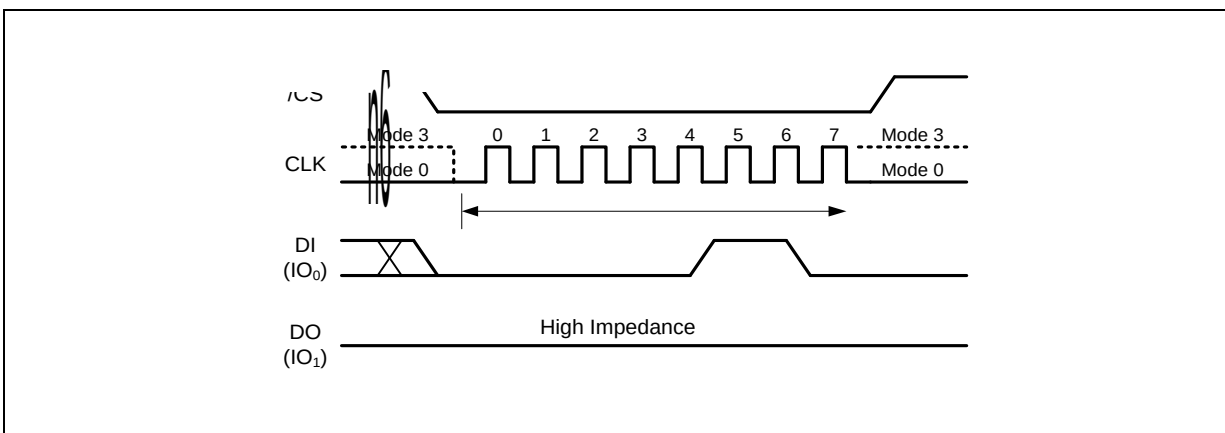

Figure 9. Write Enable Instruction
The Write Enable instruction (Figure 9) sets the Write Enable Latch (WEL) bit in the Status Register to a 1. The WEL bit must be set prior to every Page Program, Quad Page Program and Block Erase instruction. The Write Enable instruction is entered by driving Input (DI) pin on the rising edge of CLK, and then driving /CS high.